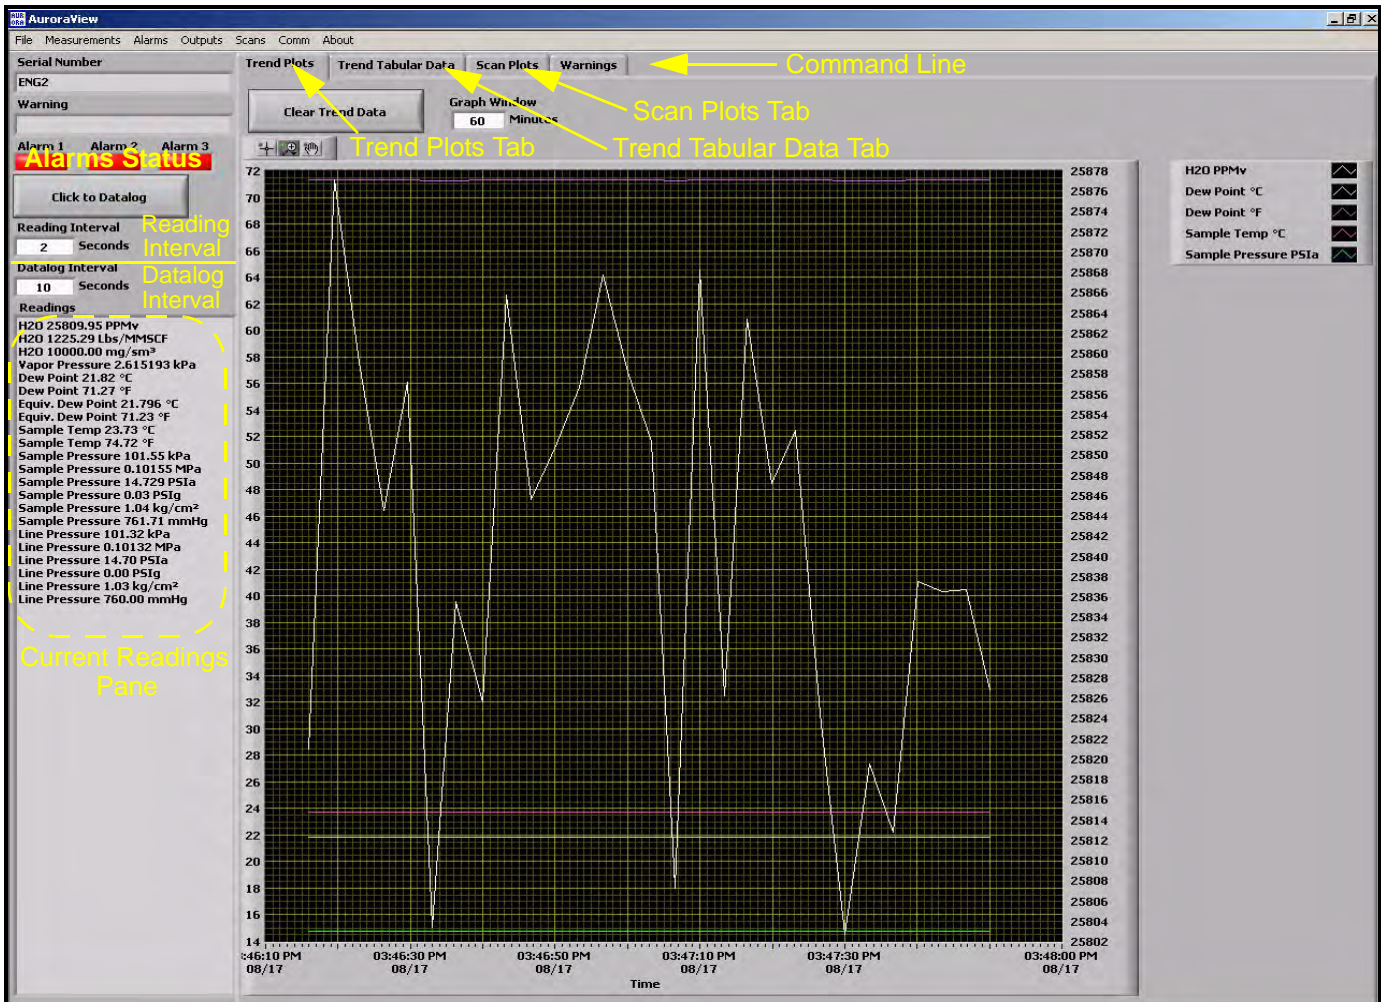

Figure 50: AuroraView Main Screen
2. AuroraView will boot up and display a screen similar to Figure 50.